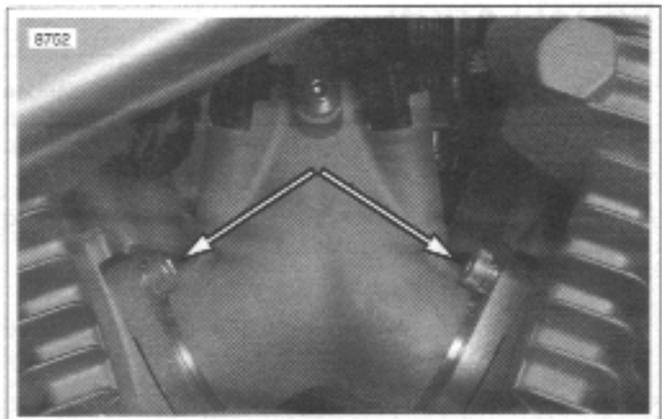

Figure 4-103. Intake Manifold fasteners (gearcase cover side)
- b. Remove fastener (1) holding manifold to engine mount.
- c. See Figure 4-103. On gearcase cover side, remove both intake flange fasteners from cylinder heads.